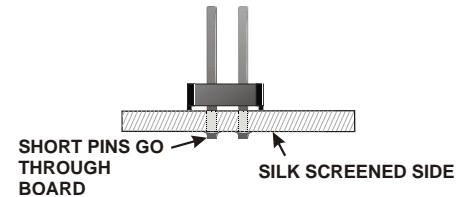

Figure 10. Installing Header Connectors.
- Install capacitor C4, .001 μ F (102) on the *back* side of the PCB (the side that is not silk-screened).
- Install JP1, a two-pin header connector on the *back* side of the PCB (the side that is not silk-screened) as shown in Figure 10 . Temporarily place a shorting block on the pins to provide a finger rest while soldering. **Do not hold the solder iron on the pins more than 1 or 2 seconds. Excessive heat will melt the plastic part of the header.**